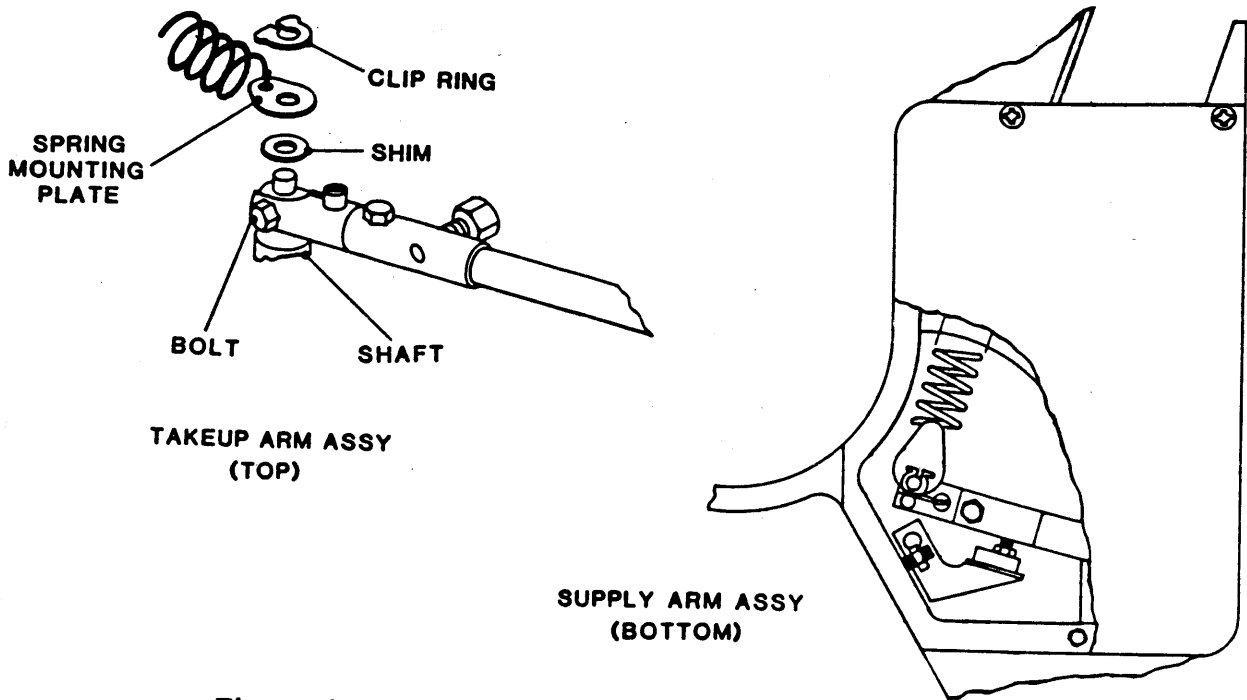

Figure 4-16 Takeup-Arm and Supply-Arm Assemblies
4.3.18 TAKEUP ARM ASSEMBLY (TOP) (Fig. 4-16)
4.3.19 SUPPLY ARM ASSEMBLY (BOTTOM) (Fig. 4-16)